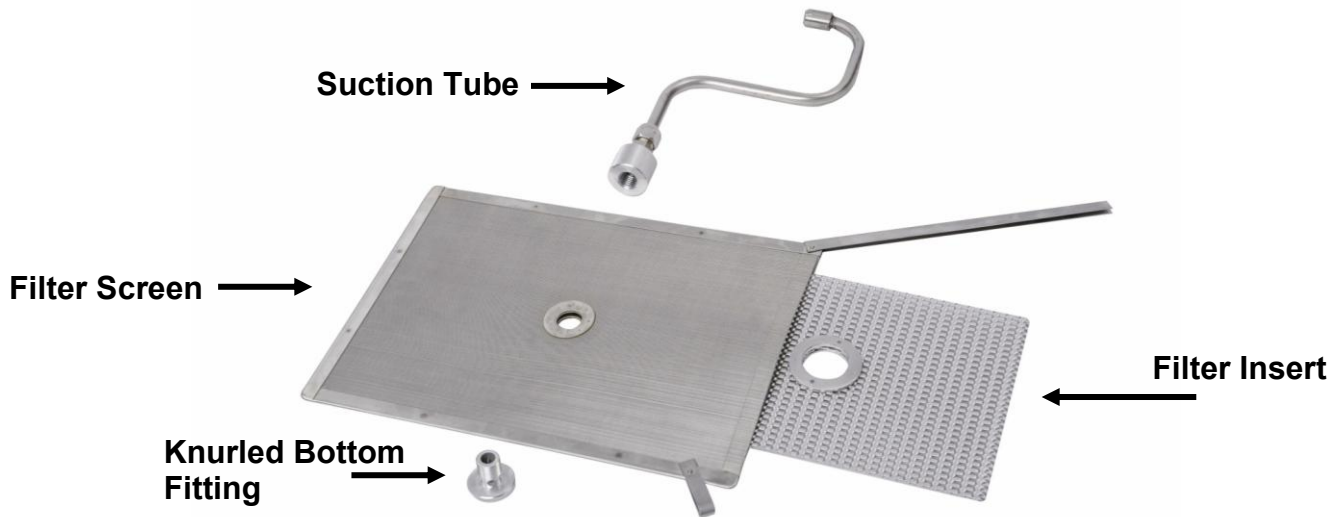

Fig.1
- Carefully line up the suction tube nozzle so that it mates with the oil receptacle block mounted on the frame of the fryer battery. Close the filter pan drawer. See Figures 1, 2, 3 and 4.